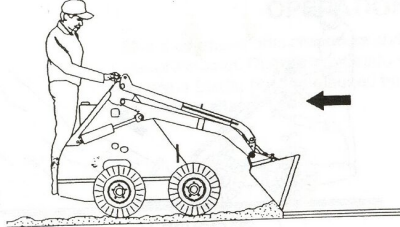

Figure 17
1. To level a filled area, tilt bucket forward and drive machine backwards to drag bucket and spread material, as shown in Figure 17.